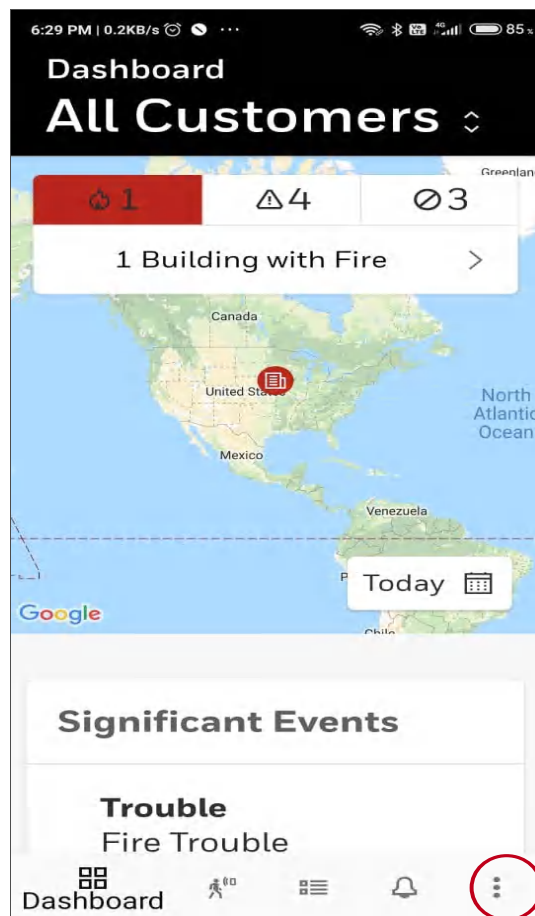

Figure 5.1: CLSS App Dashboard
5. On the App's dashboard, at the right bottom, tap the **More** icon (see Figure 5.1).